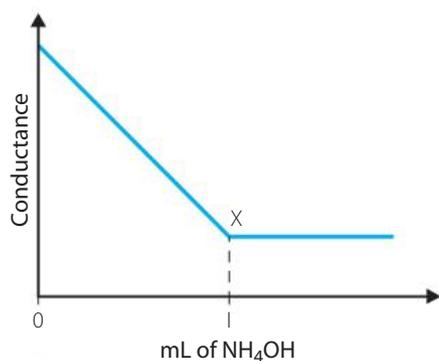

FIGURE 7.22 Conductivity graph for a titration between H_2SO_4 and NH_4OH
- Figure 7.22 shows the conductivity graph for a reaction between sulfuric acid and ammonium hydroxide.